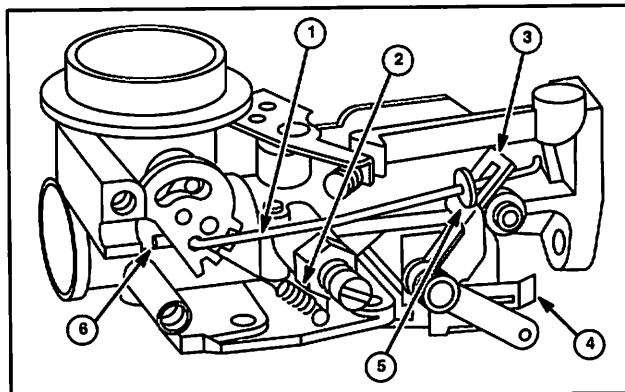

Fig. 79
1. Insert "Z" bend of Choke-A-Matic® linkage (1) into same hole (6) as return spring (2).
2. Slide washer on the end of linkage and then slide Choke-A-Matic® lever onto shaft (3).
3. Install lever assembly and stop switch (4) on carburetor, Fig. 79.